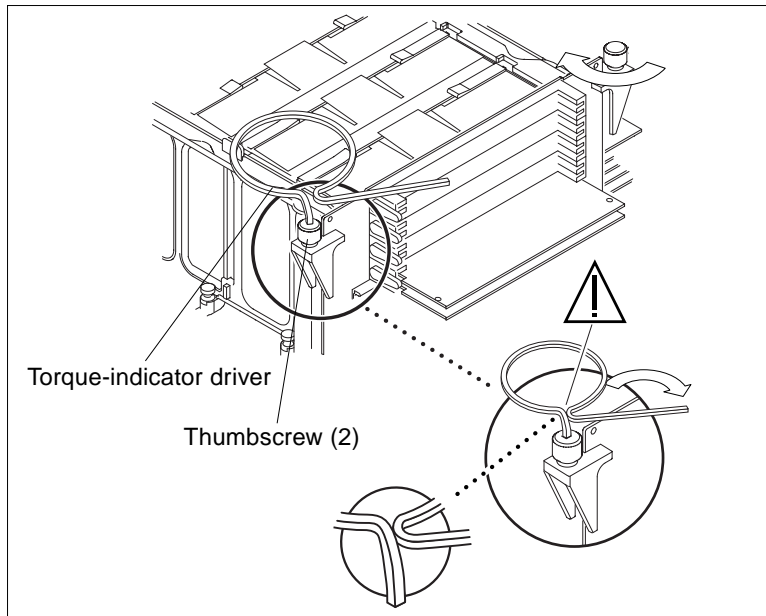

FIGURE 9-11 Setting the Memory Riser Assembly Thumbscrew Torque
- c. **Using the short leg of the torque-indicator driver, alternately turn each thumbscrew clockwise one turn at a time. Stop turning each thumbscrew as soon as the torque indicator driver gap closes (FIGURE 9-11).**